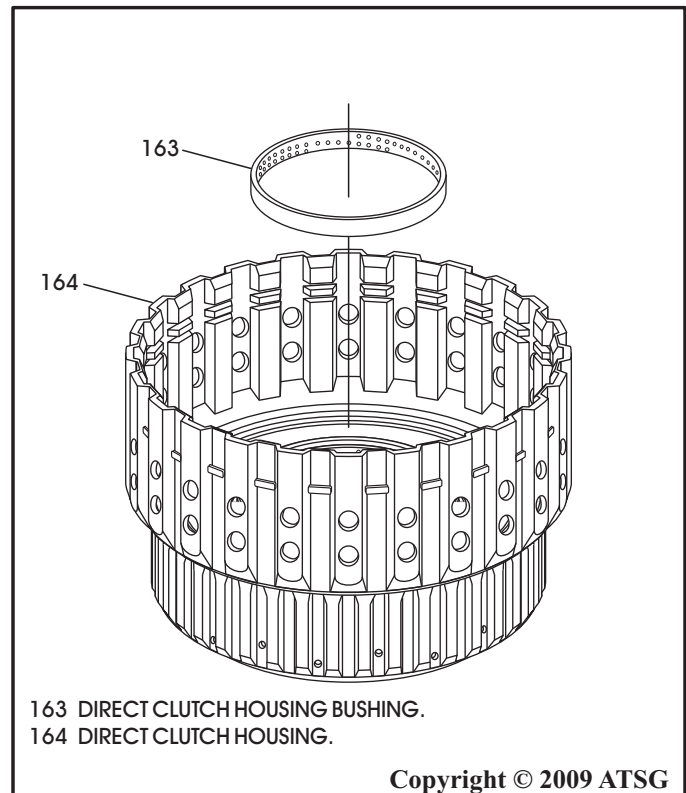

Figure 141
6. Install new bushing, as necessary, into direct clutch housing, as shown in Figure 141, using the proper bushing driver.